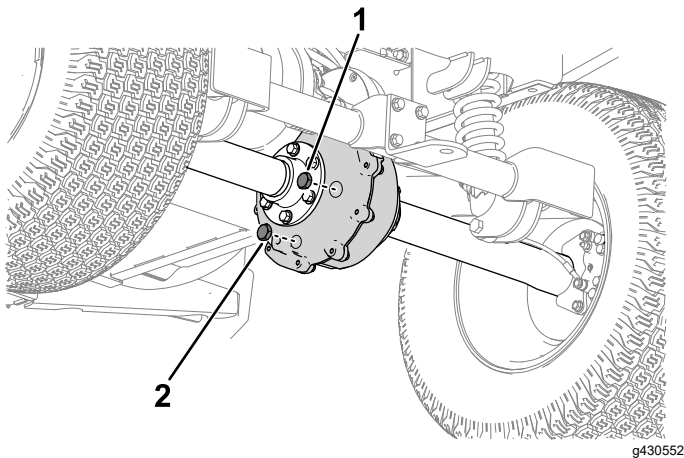

Figure 47
1. Align a drain pan under the transaxle drain plug (Figure 47).